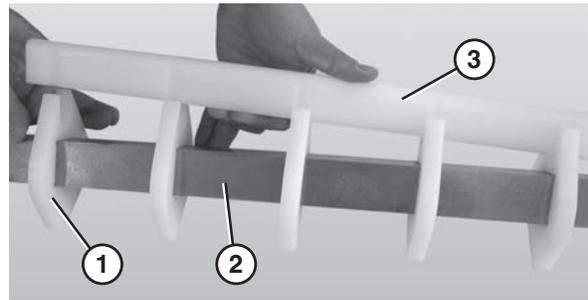

Figure 68
- Slide the nose bar pucks (Figure 68, item 1) onto the nose bar drive post (Figure 68, item 2).
- Attach the nose bar wear strip (Figure 68, item 3).